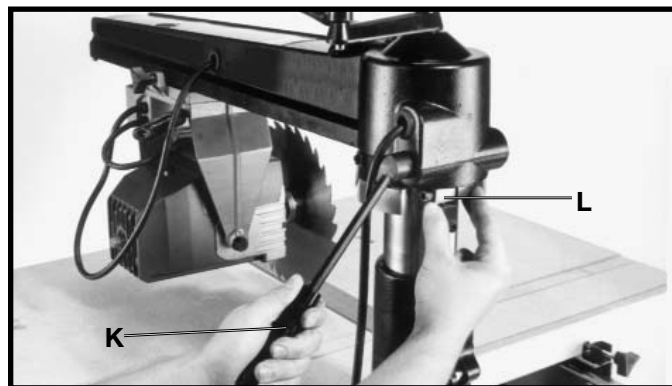
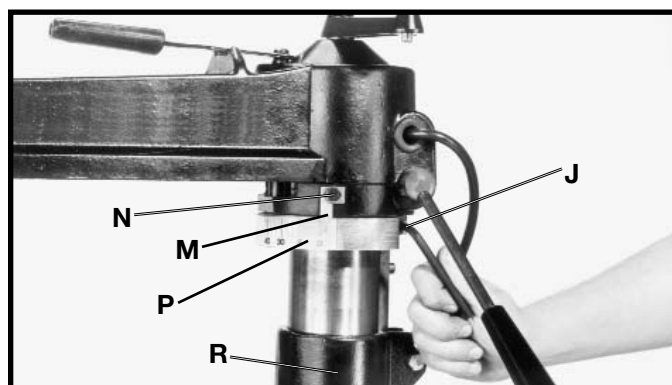

Fig. 35
Fig. 36
7. With track arm clamp handle (K) Fig. 35, tightened, rotate index ring (L) counterclockwise until it stops. Then tighten index ring locking screw (J) Fig. 36.
8. There are two miter index pointers, one of which is shown at (M) Fig. 36. Adjust as follows: loosen screw (N) and move pointer (M) until it lines up with the “zero” mark on the miter scale (P). Then tighten screw (N). Adjust the miter index pointer located on the other side of column (R) in the same manner.